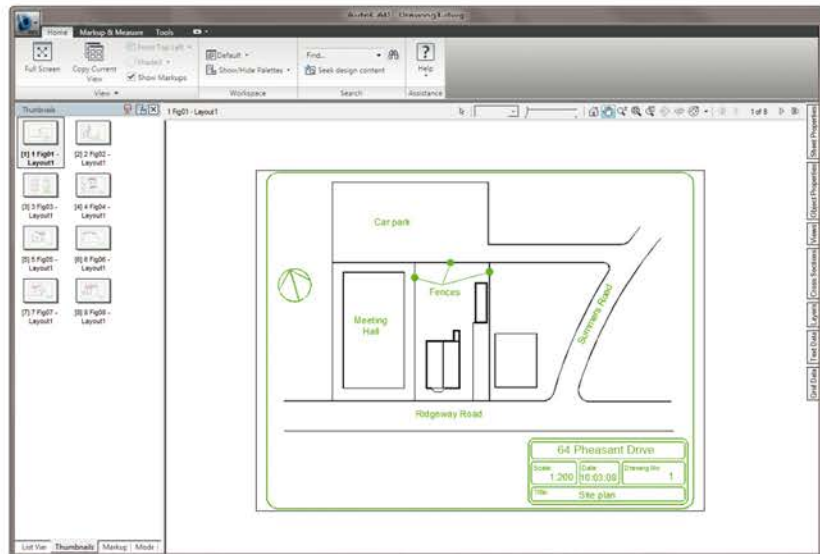

Fig. 15.14 The Autodesk Design Review showing details of the 64 Pheasant Drive.dwf file
2. The Autodesk Design Review window appears showing the 64 Pheasant Drive.dwf file (Fig. 15.14). *Click* on the arrow **Next Page** (Page on) to see other drawings in the DWF file.